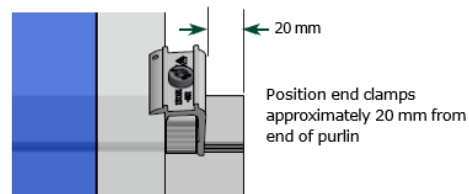

Fig 4.3.1A: Positioning end clamp
- I. Position end clamps on rail approximately 20mm from end of rail, do not tighten [Fig 4.3.1A].